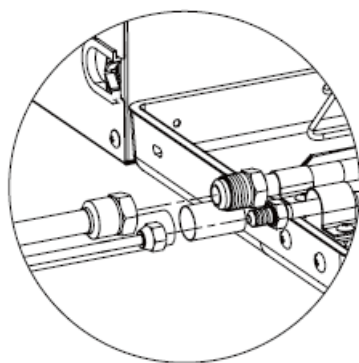

Fig. 13
- (1) Remove pipe cover and pipe plug.
- (2) Direct the flared part of copper pipe to the center of screwed joint. Twist on the flared nut tightly by hand, as in Fig. 13. (Make sure indoor pipe is correctly connected. Improper location of the center will prevent flared nut from being securely twisted. Thread of nut will get damaged if the flared nut is twisted forcibly.)